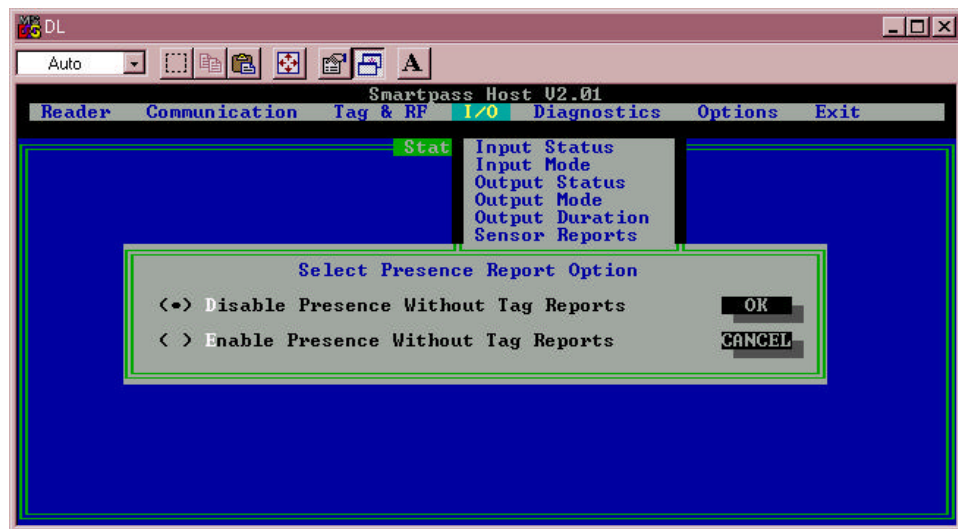

Figure 4-13 Select Presence Report Option Dialog Box
1. Select the **I/O** drop-down menu and click the **Presence Reports** option. Figure 4-13 illustrates the options for disabling or enabling presence without tag reports.